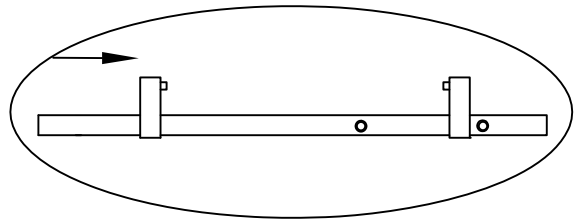

Fig. 7
- Slide Door Stopper (1) onto end of Top Rail (2). The bumpers on Door Stopper (1) should be face inward and be on top for final installation. Note: One door stopper comes pre-assembled on top rail between fixed glass bolt assembly. See Fig.7 for details.